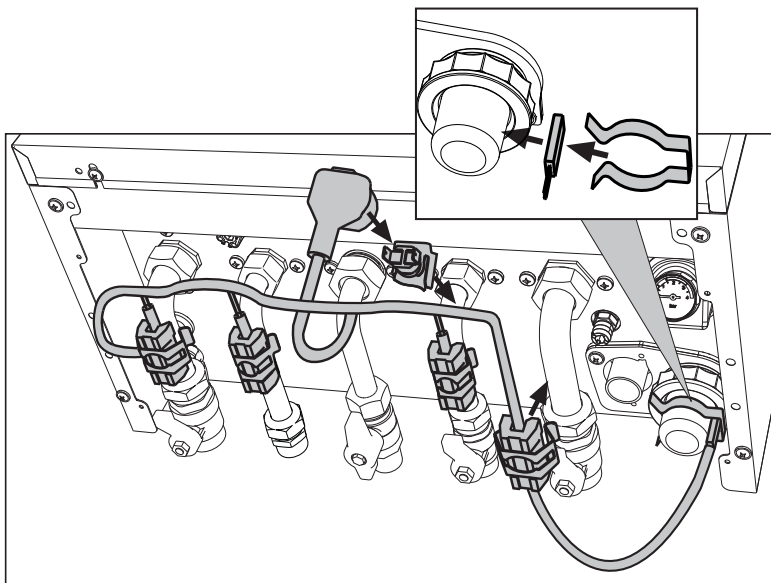

fig. 39- Frost protection kit
In case of installation outside in a place partially protected for temperatures below -5°C and to -15°C , the boiler must be fitted with the special frost protection kit to protect the circuit. Connect the kit to the PCB as indicated in the wiring diagram in fig. 64 (ref. 288) and position the thermostat and heaters on the pipes as indicated in fig. 39 and in the instructions provided with the kit.